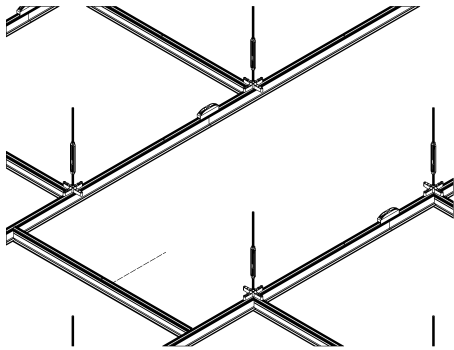

Fig 15A
3.9 Each run of modules is installed 4' apart, with 4' cross tees connecting adjacent runs. Insert the 4' cross tee between the modules and slide under the X-Bracket (DMXB) (**Figs 15A & 15B**).